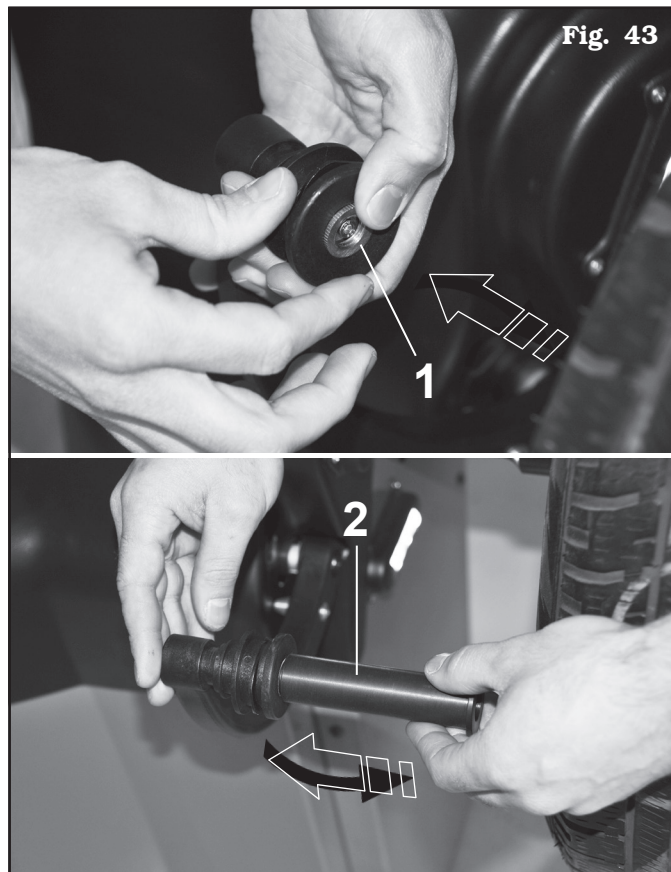

Fig. 43
To fit the extension (Fig. 43 ref. 2), first press the threaded ring nut (Fig. 43 ref. 1) in the hole provided and then screw the plastic terminal (see Fig. 43).